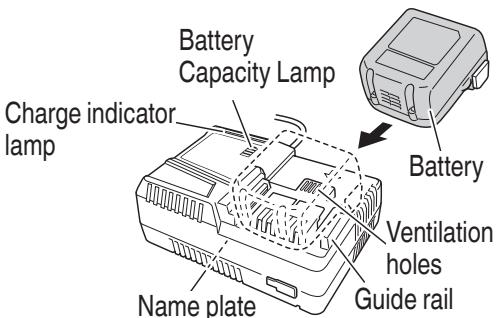

Fig. 1
1. Connect the charger's power cord to the receptacle. (Fig. 1)
Firmly insert the battery into the charger, as shown in **Fig. 1**.